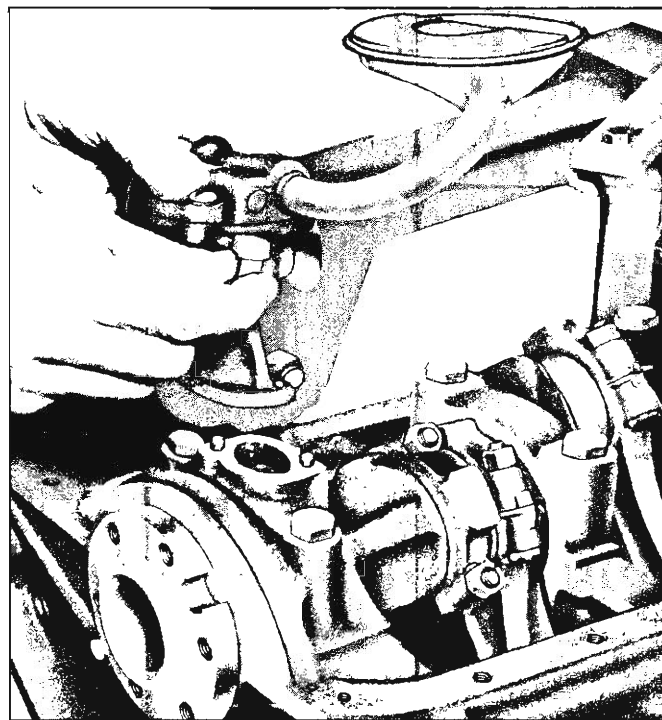

Fig. 7W—Oil Pump Removal and Installation
**NOTE:** Install oil pump screen with bottom edge parallel to all pan rails (fig. 7W).